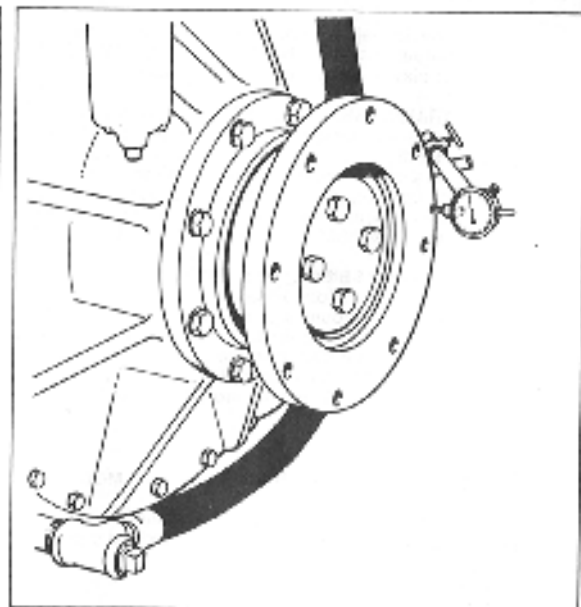

Fig. 39. Dial Indicating Output Flange Mounting Face
- b). Dial indicates the output flange mounting face as shown in fig.39. Variation must not exceed .003" maximum.